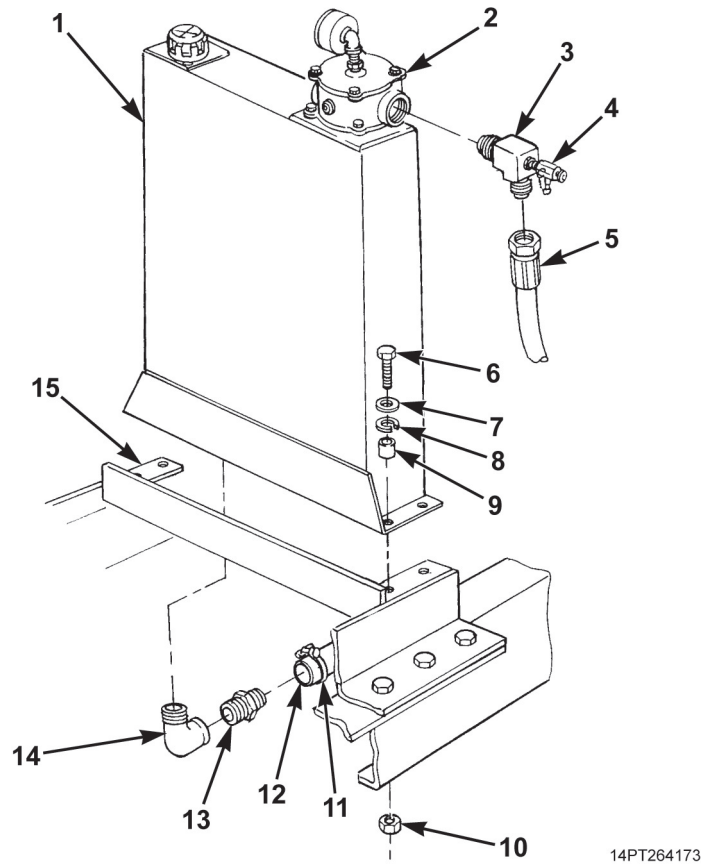

Figure 1. Hydraulic Reservoir Removal.
1. Disconnect hydraulic return hose (Figure 1, Item 5) from tee (Figure 1, Item 3).
2. Remove tee (Figure 1, Item 3) with oil sampling valve (Figure 1, Item 4) from filter housing (Figure 1, Item 2).
3. Loosen clamp (Figure 1, Item 11) and disconnect suction hose (Figure 1, Item 12) from hose barb (Figure 1, Item 13).
4. Remove hose barb (Figure 1, Item 13) and elbow (Figure 1, Item 14) from hydraulic reservoir (Figure 1, Item 1).
5. Attach a nylon sling and suitable lifting device to hydraulic reservoir (Figure 1, Item 1). Take up slack in sling.
6. Remove four locknuts (Figure 1, Item 10), spacers (Figure 1, Item 9), lockwashers (Figure 1, Item 8), washers (Figure 1, Item 7), and screws (Figure 1, Item 6). Discard locknuts and lockwashers.
7. Remove hydraulic reservoir (Figure 1, Item 1) from cylinder support frame (Figure 1, Item 15).